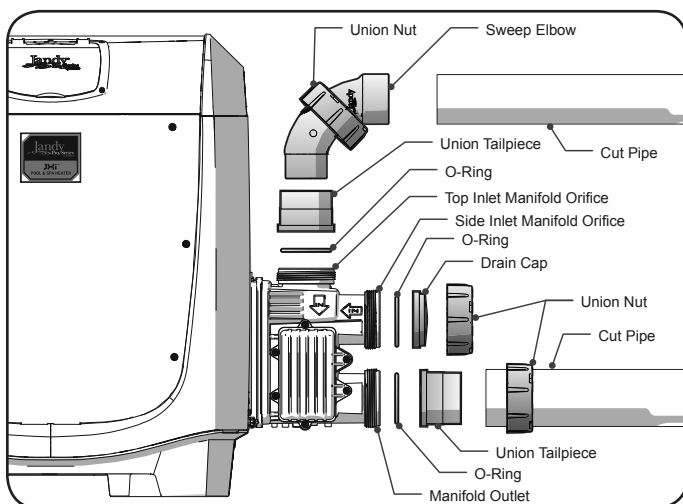

Figure 10. Inlet Piping
- Slide the union nut onto the cut pipe length. or sweep elbow. Ensure proper nut orientation with threads directed towards the heater manifold. See *Figure 10*.